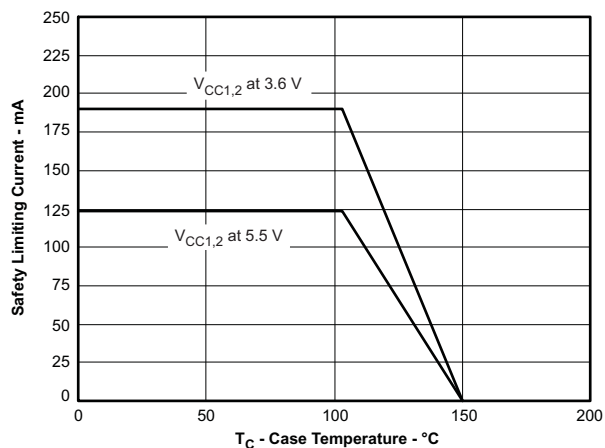

Figure 6. SOIC-8 THERMAL DERATING CURVE
- Deleted ' θ_{JC} ' and 'per IEC 60747-5-2' from Figure 6 title. 11